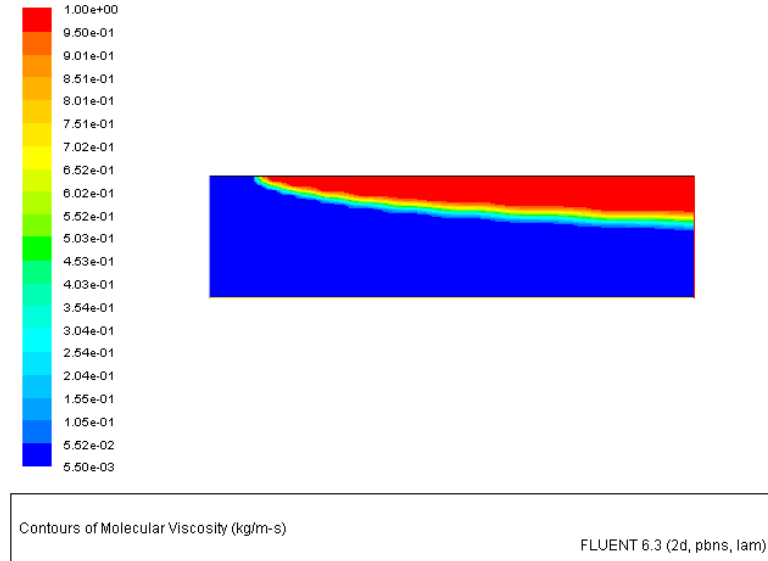

Figure 4: Contours of Molecular Viscosity
1. Display filled contours of molecular viscosity (Figure 4)
Figure 4 shows that when the warmer fluid enters the channel from the left and encounters the cooler wall further on, its viscosity increases according to the user defined viscosity relation.